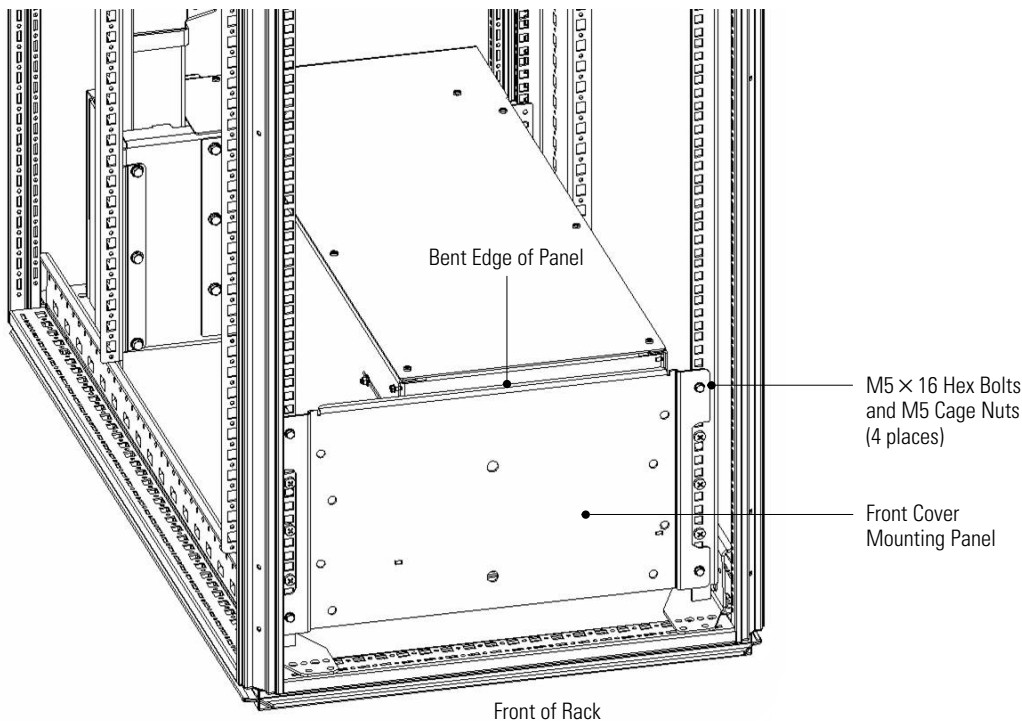

Figure 10. Front Cover Mounting Panel Installation
22. Using four M5 × 16 hex bolts and four M5 cage nuts, secure the front cover mounting panel to the front of the rack. Ensure that the bent edge of the panel is at the top. See Figure 10.